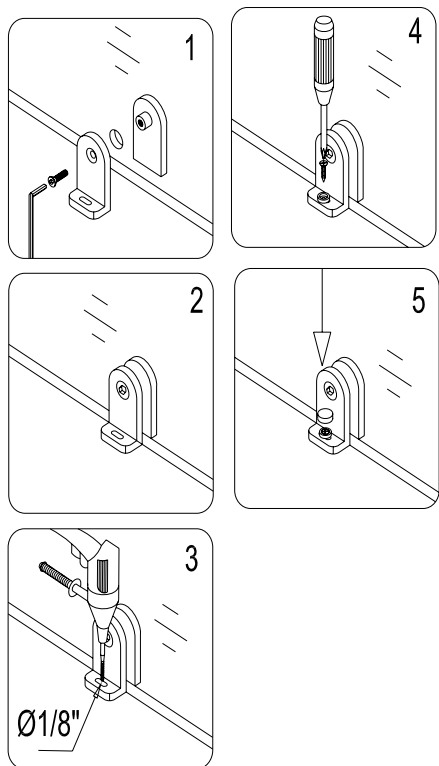

Fig. 7
6. Attach the **Bottom Bracket (16)** to the stationary glass and mark a hole in the threshold or tray through the slotted hole of the **Bracket**. Remove the **Bracket**, insert **Anchor (07)**. Then reinstall the Bracket and screw it to the threshold or tray with the **Round head screw ST4.2x25 (14)** and cover it with the **Decorative cover (15)**. See Fig. 7 for details.